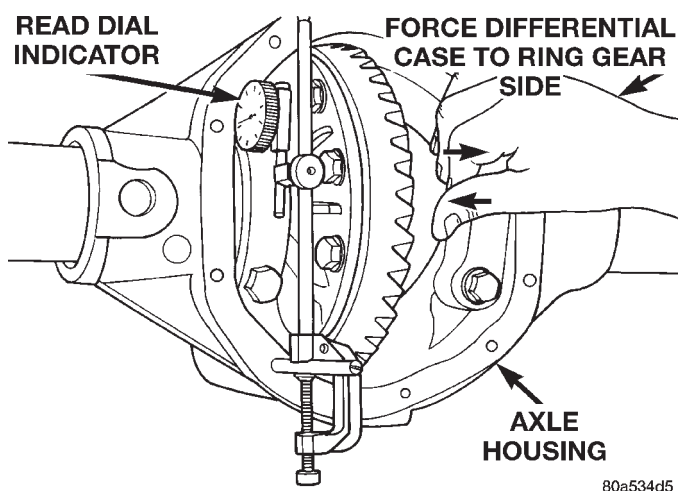

Fig. 51 Hold Differential Case and Read Dial Indicator—Typical
(12) Firmly push and hold differential case to ring gear side of the axle housing (Fig. 51).
(13) Record dial indicator reading (Fig. 51).